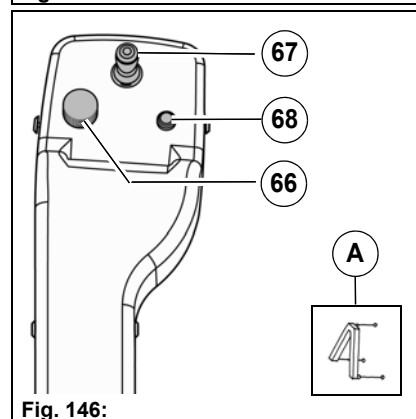

Fig. 146:
1. Switch on the work mode with the Hako button **Fig. 146-68**. The accelerator pedals must be in the neutral position. The coupling triangle work mode symbol appears in the multifunctional display **Fig. 146-A**.